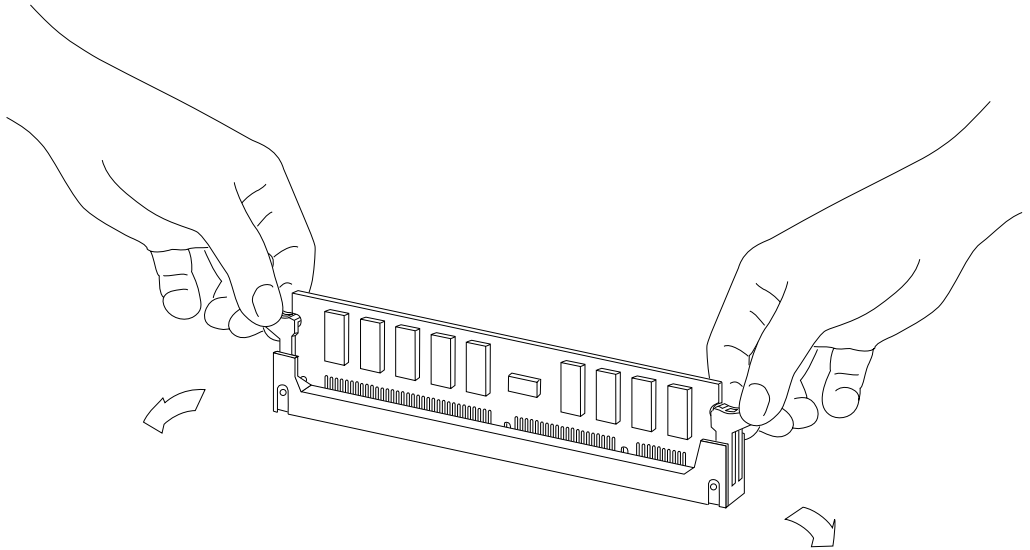

FIGURE 3-14 Ejecting a DIMM
4. Eject the faulty DIMM by pressing down on the ejection levers on both sides of the DIMM connector (FIGURE 3-14).